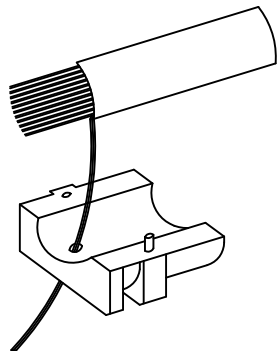
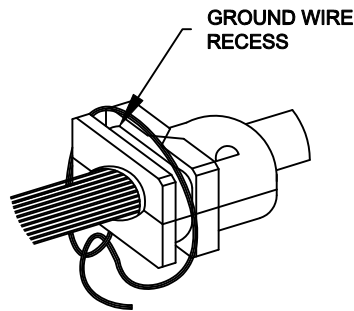
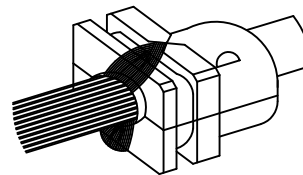

FIG. 1
FIG. 2
FIG. 3
Insert the wire through the hole in one of the two ferrule halves as shown in Fig 1. Assemble the two halves around the cable and make sure that the insulation runs the full length of the ferrule, then complete as shown in Fig 2.
For heavily braided cables, pigtail the braid and turn it back over the ferrule as shown in Fig 3.
3. WRAP THE SHIELD/GROUND AROUND THE STRAIN RELIEF AS IN FIG. 2 OR FIG. 3 AND AS OUTLINED BELOW
1. INSERT THE GROUND WIRE THROUGH HOLE IN ONE HALF OF THE STRAIN RELIEF AS SHOWN IN FIG 1. ASSEMBLE THE TWO HALVES OF THE STRAIN RELIEF AROUND THE CABLE MAKING SURE THAT THE CABLE INSULATION RUNS THROUGH THE FULL LENGTH OF THE STRAIN RELIEF, THEN COMPLETE AS IN FIG 2
3. PLACE THE ASSEMBLY INTO THE LOWER HALF OF THE HOOD MAKING SURE THAT THE GROUND WIRE IS SHOWING FROM UNDER THE CONTACT AREA OF THE STRAIN RELIEF ASSEMBLY AS IN FIG 2
1. FOR HEAVILY BRAIDED CABLE, PIGTAIL THE BRAID INTO TWO BRAIDS, AND BRING IT BACK OVER THE ASSEMBLED STRAIN RELIEF. SEE FIG 3